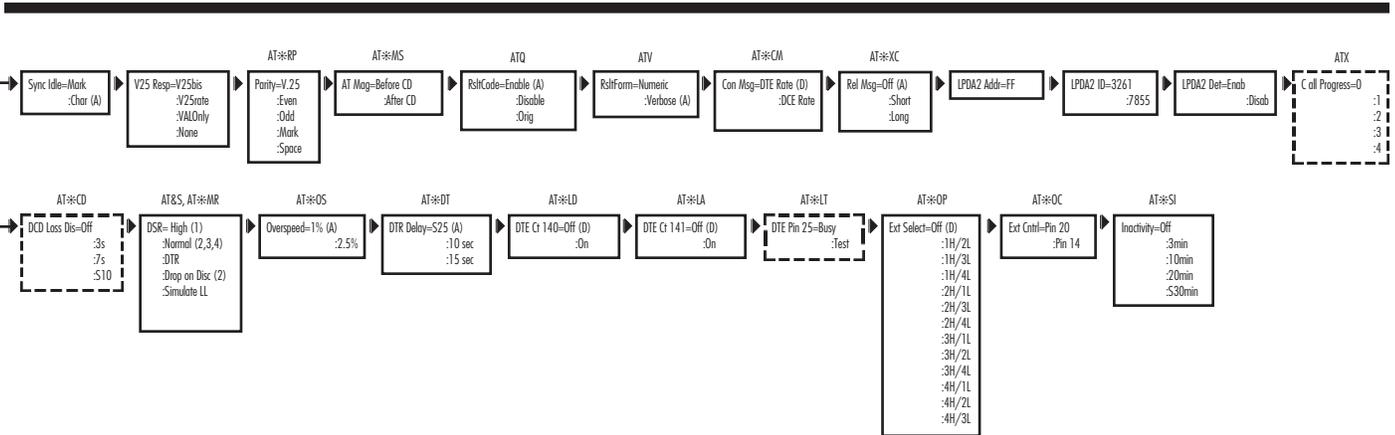

Figure 6-1. Main Menu.
- A pull-out main menu figure (Figure 6-1) that illustrates all AT, AT&, and AT* command settings, front-panel options, and option settings.